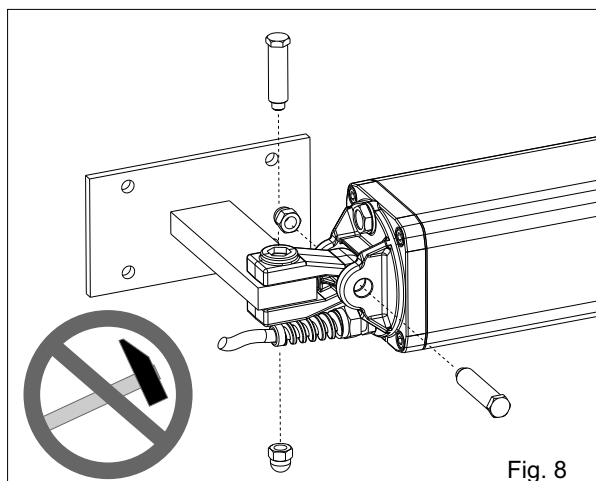

Fig. 8
- Fix the oscillating fork as in fig.8